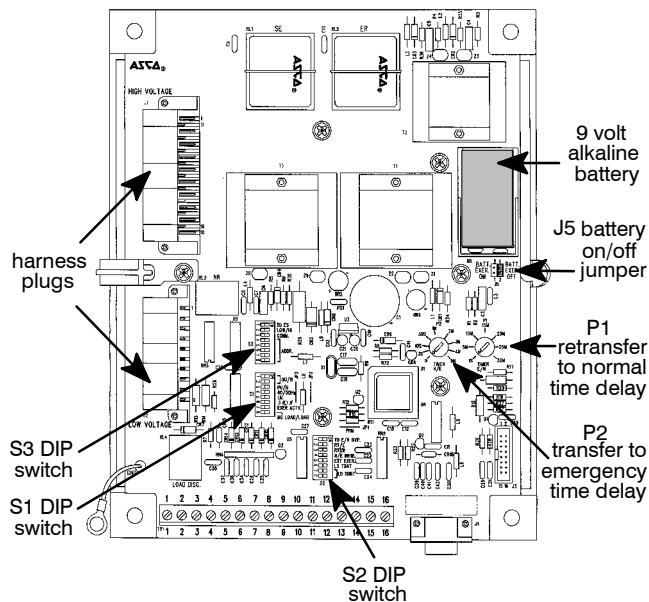
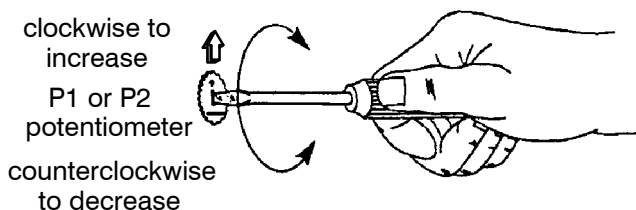
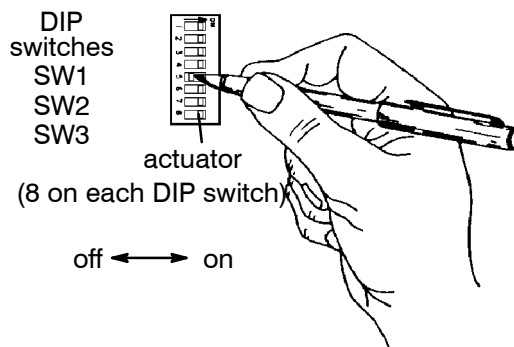

Figure 4-2. Location of potentiometers.
Figure 4-3. Changing time delay potentiometers.
Figure 4-4. Setting DIP switch actuators.
4. Locate the appropriate adjustment potentiometer or DIP switch for the setting that you want to change. Refer to Table 4-1 and Table 4-2 on page 4-1 and Figure 4-2, Figure 4-3, Figure 4-4 on page 4-2.
5. Use a small screwdriver to turn the potentiometer clockwise to increase the time delay or counterclockwise to decrease it. See Figure 4-3.
6. Use a ball-point pen (or similar pointed tool) to slide the switch actuators left or right so they match the illustration next to the setting (left = off, right = on). Recheck the setting. See Figure 4-4.
The engine exerciser included in ASCO Series 300 Automatic Transfer Switches provides a once a week 20-minute exercise period. It occurs immediately when the **Set Engine Exerciser** push button is pressed (and held for at least 5 seconds), and then at the same time weekly thereafter. A 9 volt alkaline battery (*DuracellR* MN1604, *EverreadyR* 522, or *PanasonicR* 6AM6) is furnished and installed in the controller to maintain the setting. The battery jumper block must be shifted to the ON position. See Figure 4-2 on page 4-2.